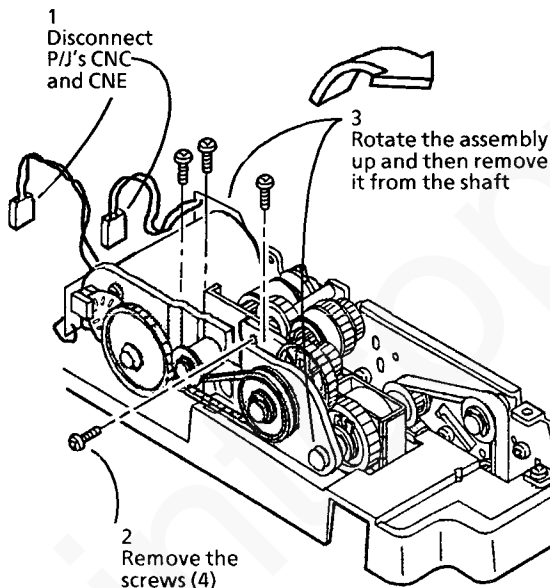

Figure 1. Removing the SDF Drive Motor
3. Remove the SDF Drive Motor (Figure 1).